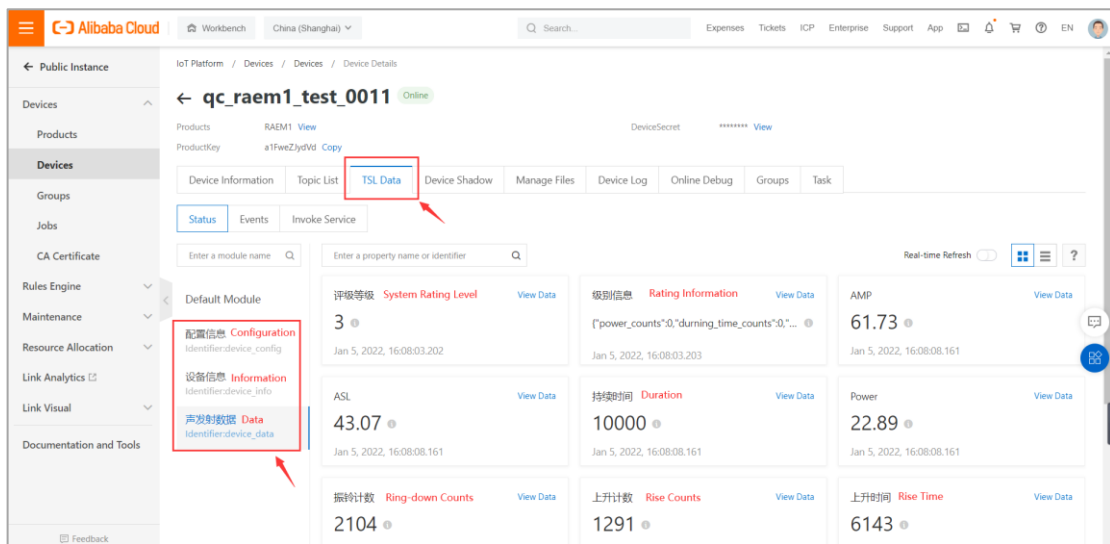

Fig. 6-25 Qingcheng Alibaba Cloud
- (3) Choose the **TSL Data** tab and there are three modules under the **Default Module** on the left, device configuration, device Information and device data respectively. All the data are real-time display. (Figure 6-25)